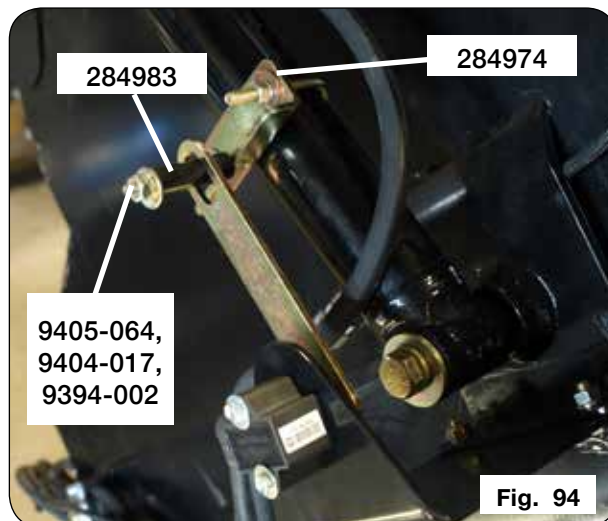

Fig. 94
6. Slide the shorter spacer bushing (284983) over the threaded rod portion of the retainer weldment and through the slot in the arm weldment. Retain the spacer bushing to the retainer weldment using a 1/4" flat washer (9405-064), 1/4" lock washer (9404-017) and 1/4" nut (9394-002). Center the spacer bushing in the slot in the arm weldment and tighten the two 1/4" nuts to secure the retainer weldment to the spout tilt cylinder (Fig. 94 & 95)